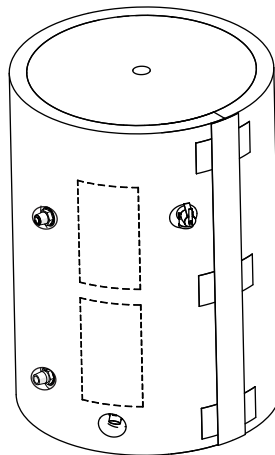

Figure 4
4. Insulate top of water heater by placing top insulation as shown in Figure 4.